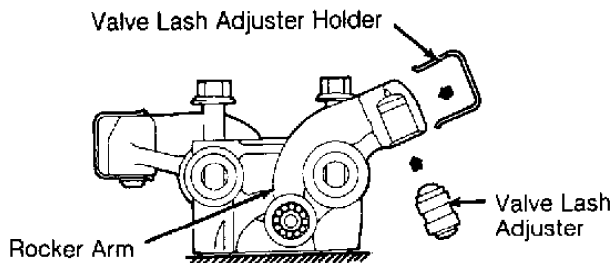
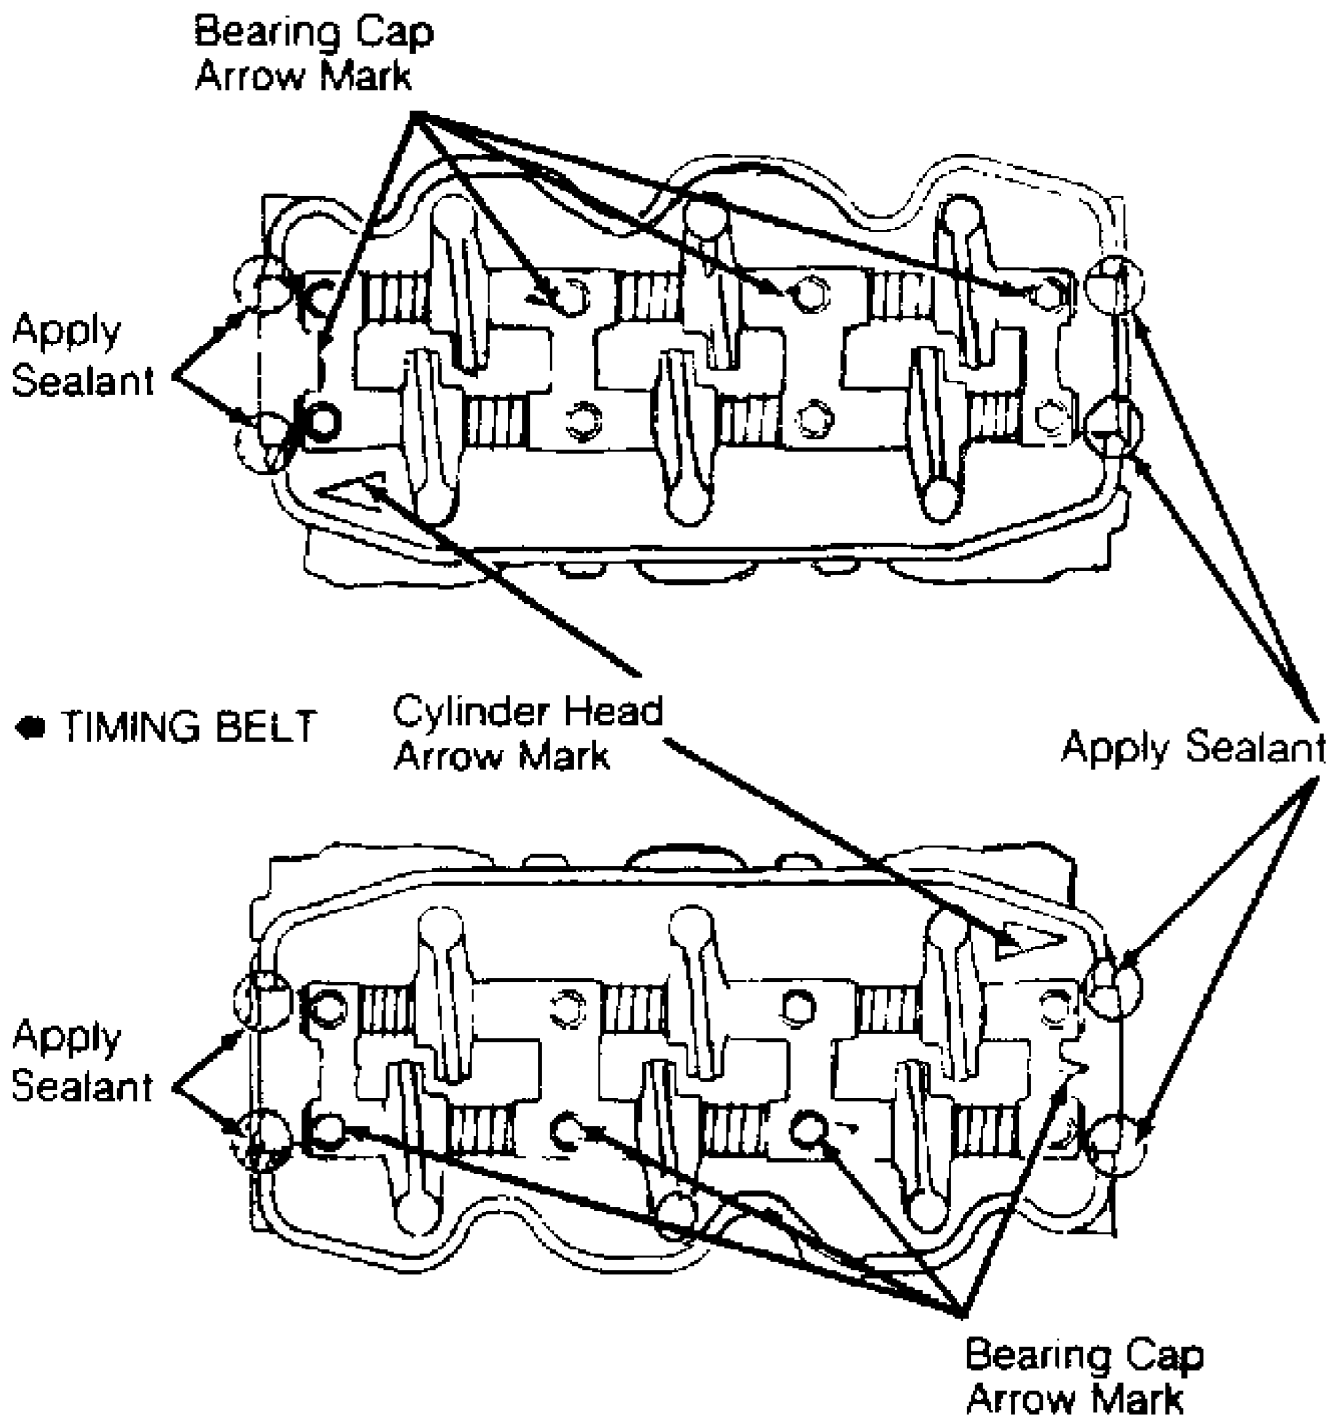

Fig. 9: Installing Valve Lash Adjuster Holder
Fig. 10: Identifying Bearing Cap & Sealant Locations
2) Remove camshaft oil seal from front of cylinder head or distributor adapter. Remove distributor adapter and "O" ring. Install Valve Lash Adjuster Holder (MD998443) onto rocker arm. See Fig. 9. Note arrow marks on bearing caps and cylinder head. See Fig. 10.
cylinder head. Install valve lash adjusters and valve lash adjuster holders (if removed). See Fig. 9.
2) Apply 3M Sealant (4171) to designated areas of cylinder head. See Fig. 10. Use care so sealant does not get onto camshaft or camshaft bearings. Install rocker arm assembly. Ensure arrow on bearing cap faces same direction as arrow on cylinder head. See Fig. 10. Tighten bearing cap bolts to specification. See TORQUE SPECIFICATIONS TABLE at the end of this article. Remove valve lash adjuster holders.